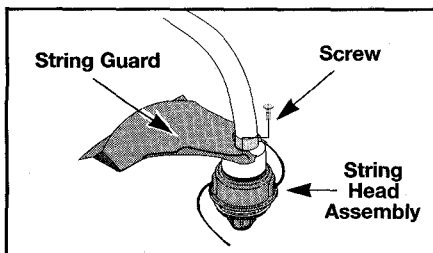

Fig. 8
3. Install the four (4) screws with a Phillips screwdriver (Fig. 8).